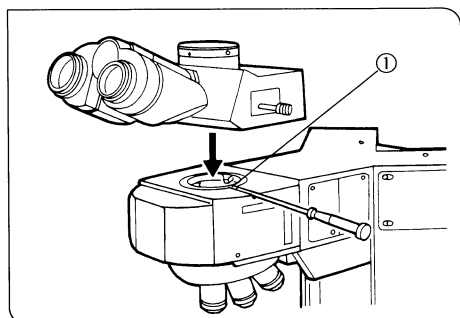

Fig. 15
(Fig. 15)
10 Mounting the Observation Tube (Figs. 15, 16)
1. Using the Allen screwdriver, loosen the observation tube clamping screw ①.
2. Insert the circular dovetail mount at the bottom of the observation tube into the opening on the microscope frame, positioning the observation tube to point the binocular eyepieces towards the front. Clamp the observation tube by tightening the clamping screw. (Fig. 15)